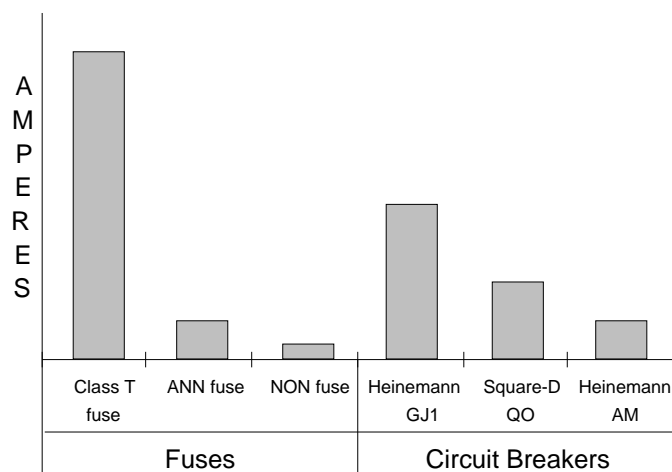

Figure 1: Relative Amperes of Interrupting Capacity (AIC) Comparison, Based on AIC Ratings at 125 VDC
Heinemann GJ1, for example, has a manufacturer's AIC rating of 25,000 Amperes at 65 VDC. The only industry-wide AIC rating for these fuses and breakers in DC applications is an Underwriters Laboratories (UL) rating at 125 VDC. At 125 VDC, the Class T fuse is rated 20,000 Amperes, the ANN fuse 2500 Amps, and the NON fuse 1000 Amps. At 125 VDC, the Heinemann GJ1 is rated 10,000 Amperes, the Square-D QO 5000 Amps, and the Heinemann AM 2500 Amps. An engineer at Littelfuse told me the interrupting capacity of these fuses is better than inversely proportional to voltage at DC voltages below 125 VDC. In other words, at 12.5 VDC we could expect the Class T fuse to have an AIC of more than 200,000 Amperes. The current interrupting capability of breakers also increases with decreasing voltage, but less so than for fuses. This is because the contacts in breakers must pull apart to break the arc established by the short circuit, whereas in a fuse, the arc simply melts the conductor. Figure 1 provides a relative comparison of AIC ability for various fuses and breakers commonly used in RE systems. The plotted values are actually the UL generated AIC ratings at 125 Volts, but they also give an indication of the relative AIC performance of these protection devices at lower DC voltages.